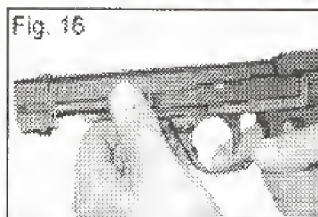

Fig. 16
4. Slide the bolt to the rearward position and hold it in the rearward position. (See Fig: 16)